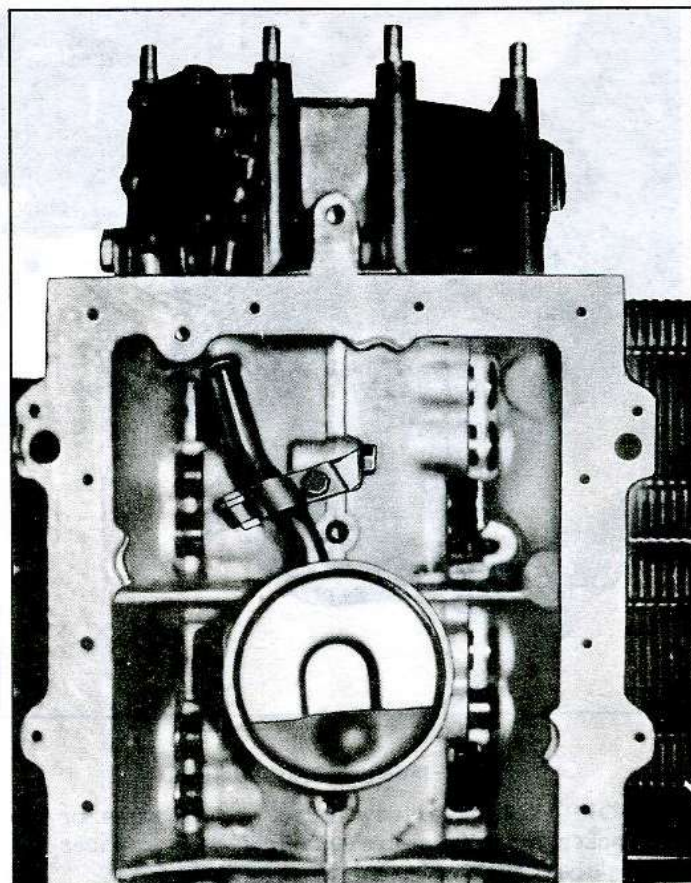

Fig. 68—Oil Pick-Up Screen Installed
19. Invert the engine and install oil pickup tube bracket and short crankcase bolt (fig. 68) and torque bolts to specifications, then using a new gasket, install the oil pan and torque to specifications.